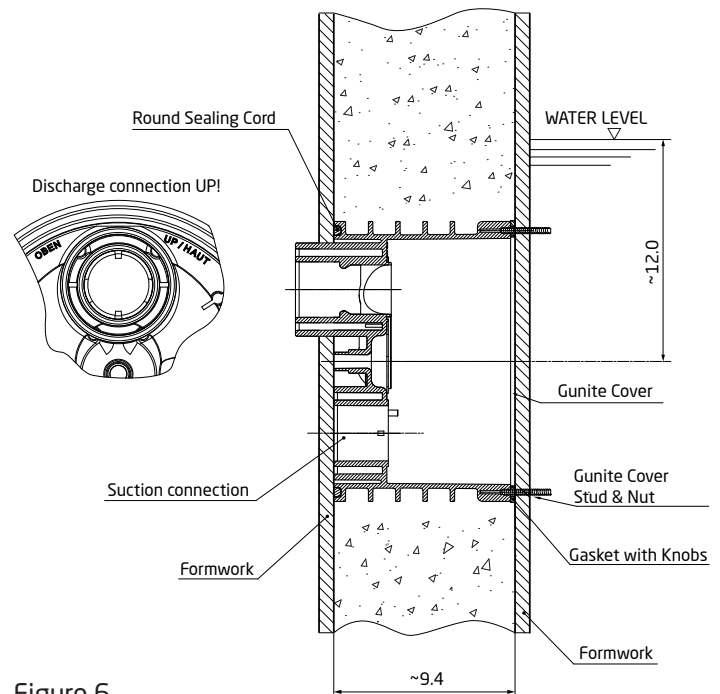

Figure 6
- Place the jet housing between the steel rebar with the back of the jet housing against the hole in the outer wall formwork. Jet housing location is very important (See Figure 6).
- Slide the inner wall formwork over the studs in the jet housing through the pre-drilled holes. Secure the formwork to the jet housing with four (4) M8 washers (part# 32) and four (4) M8 nuts (part# 33).
- Mount the gunite cover to the front of the jet housing using the four (4) M8 x 80mm studs (part# 31), four (4) M8 washers (part# 32) and four (4) M8 nuts (part# 33). Tape the edge of the gunite cover around the entire jet housing to keep gunite out of threaded inserts and out of the jet housing.
- Place the jet housing between the steel rebar. Jet housing location is very important (See Figure 6).